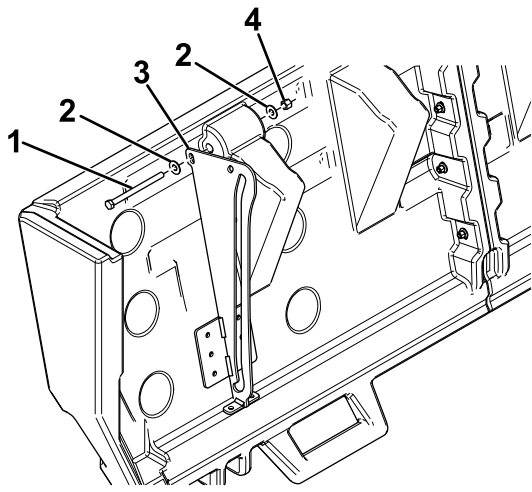

Figure 3
- Secure a track to 1 end of the cover using a bolt (3/8 x 5 inches), 2 washers, and a nut as shown in Figure 3.
- Torque the 3/8 x 5 inch bolts (Figure 3) to 7 N·m (5 ft·lb).